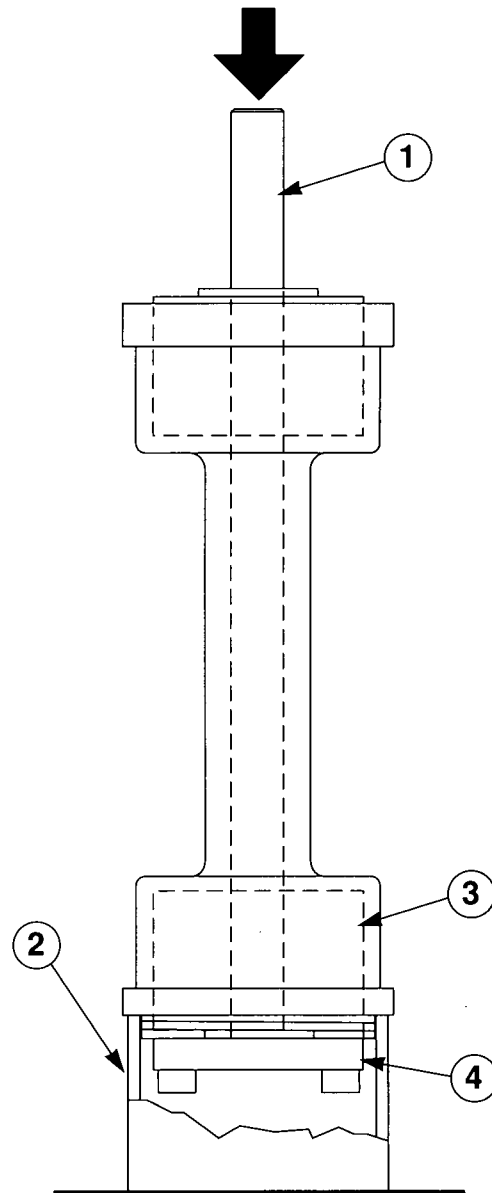

Figure 47— Press bearing block out of spindle. (1) Spindle Shaft, (2) Support Tube, (3) Bearing Block, (4) Pusher Block.
5. **Slide the spindle shaft down thru the spindle** to contact the pusher block (Figure 47).